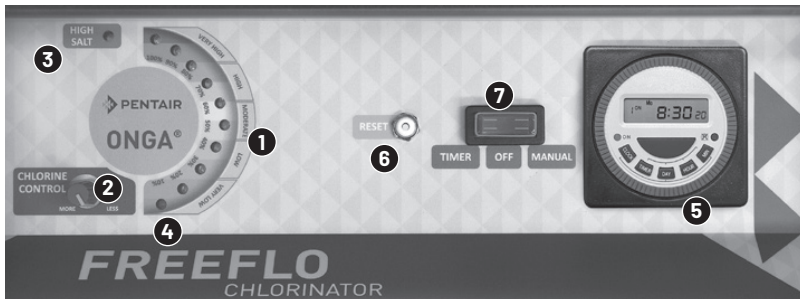

Fig.7
All Pentair Onga FREEFLO Chlorinators are fitted with a 240v 10A power socket located on the right hand underside of the power pack. Your pool pump should be plugged into this socket so that the chlorinator and pump activate together when the timer switches on at the allocated time settings or in a model without a timer the pump and chlorinator is controlled by the on/off switch. (7 in Fig.7). Failure to plug the pool pump into this socket could lead to the chlorinator staying on with no water circulation. In case of water probe failure, over heating and a possible gas build up may occur. Please see Fig.7 below in regards to function control.
1. Chlorine Output LEDs - If the correct salt level is in the pool then all 10 lights will illuminate. Each light represents 10% chlorine output. If all lights are not illuminated then a higher salt level will be required. Make sure all salt is dissolved properly before adding more. The chlorine control, (2 in Fig.7), will increase or decrease the chlorine output to suit your chlorine demand. If all of the indicator lights flash then there is a water fault problem.
3. High Salt Light Illuminated - This light is a red warning indicator and will illuminate when the swimming pool salinity level is above 6,000ppm. If this light is on, together with the ten output LEDs (1 in Fig.7), the salinity level is higher than necessary. The salt chlorinator will continue to function at this level, however it is recommended that the salt level in the pool be reduced to ensure there is no damage to other pool equipment. Verify the salt level with a water test and reduce the salt level by sending some pool water to waste and topping up with fresh water.
High Salt Light Flashing - If this light is flashing, without the output LEDs (1 in Fig.7), the salinity level is extremely high. The salt chlorinator will turn off output. The salt level in the pool must be reduced to ensure there is no damage to the salt chlorinator or other pool equipment. Verify the salt level with a water test and reduce the salt level by sending some pool water to waste and topping up with fresh water.
4. Polarity Light - The polarity light is the first indicator light, 10% in the chlorine output array, (4 in Fig.7). This light will alternate between orange and green every reversing cycle, 4-12 hours. Factory setting is a 12 hour cycle.